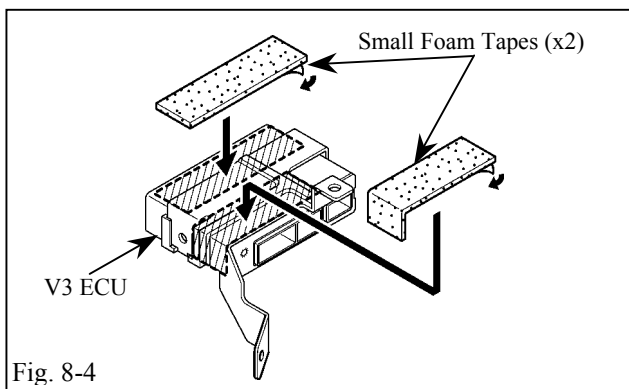

Fig. 8-4
- (1) Insert the mounting bracket into the correct slot; you have only one chance to install it properly.
- (d) Apply two small foam tapes to the V3 ECU as shown. (Fig. 8-4)